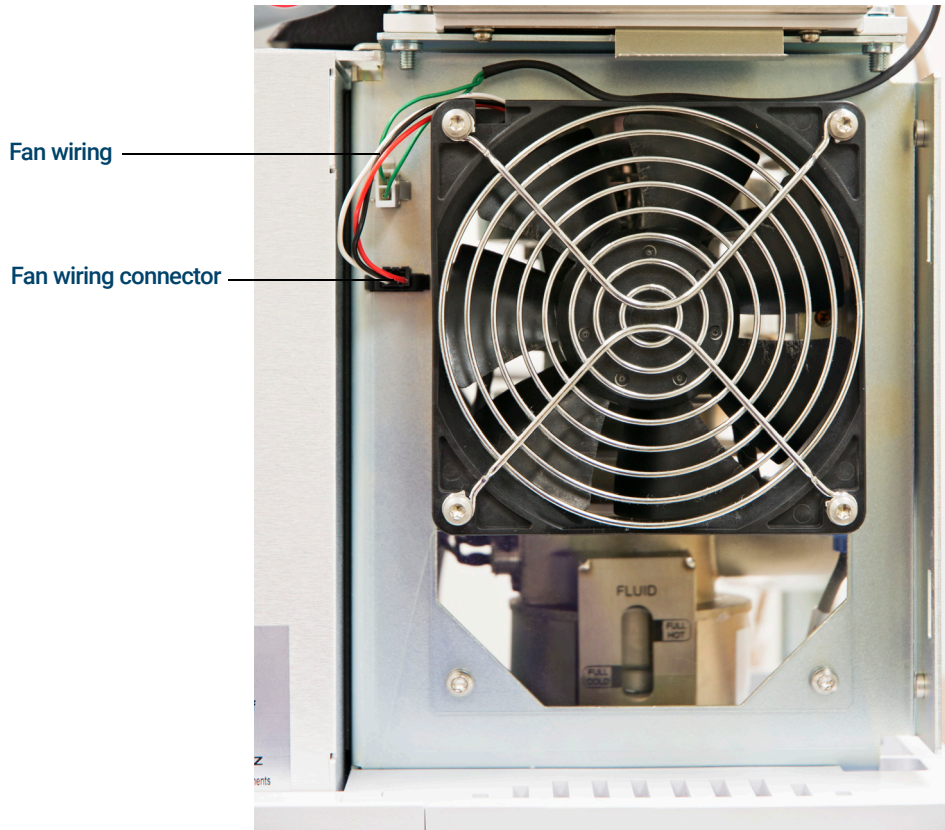

Figure 18. Replacing the pump fan (DP shown)
- 3 Disconnect the fan wiring from the connector on the MSD frame. (See **Figure 18** on page 126.)